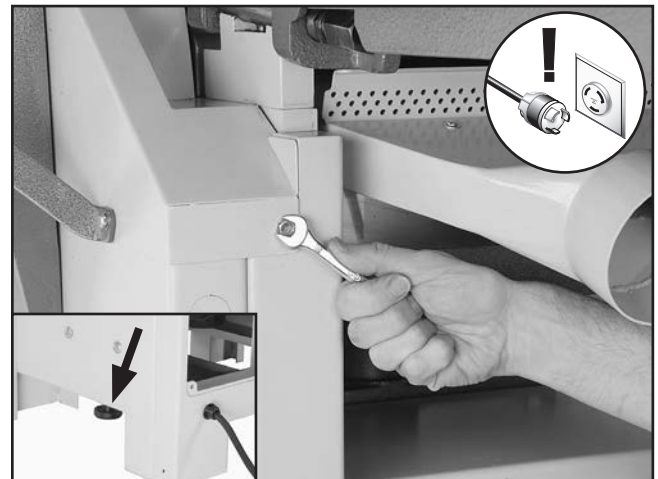

Figure 46. Removing bolts on V-belt cover and belt tension knob (inset).
2. Remove the five hex bolts securing the V-belt cover (see **Figure 46**).
3. Remove the fence and fence bracket, then remove the motor access cover and belt tension knob (**Figure 46**).